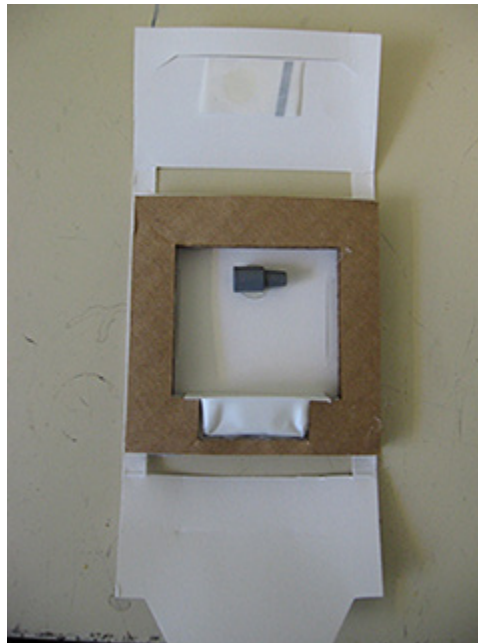

Figure 1. KB trap opened.
Khapra beetle (KB) traps are pre-assembled (Fig. 1). A KB trap kit contains 6 wall-mount traps plus one Pherocon II aerial sticky trap, food bait, and 7 pheromone lures. The new KB trap was designed to be vertically wall-mounted as opposed to the older floor type. The new trap can be used at any height, as well as floor level, as long as it is attached to a vertical surface. The Pherocon II trap is for diversion of warehouse beetles (WB), *Trogoderma variable*, which are also attracted to the pheromone (see Warehouse Beetle Trapping at end of instructions).